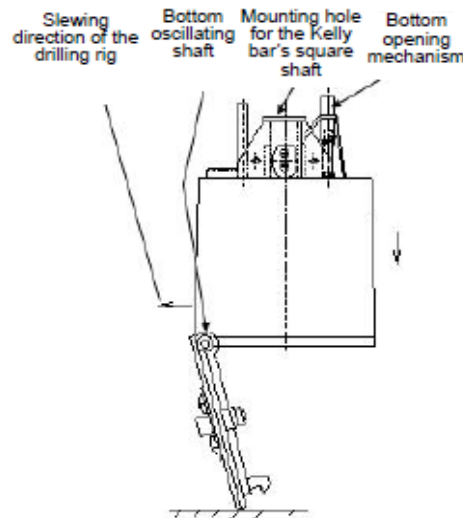

Fig. 5-10 Diagram of opening/closing the sand drilling tool (drilling tool)
- (1) When the muck in the bucket is evacuated, lower the main winch immediately and operate the slewing platform to turn it to a suitable position until the lowest part at the bucket bottom comes into contact with the ground (see Fig. 5-10).
- (2) Rotate the rotary drive and keep the drilling tool's bottom oscillating shaft at the front side of the slewing platform's rotation direction (refer to Fig. 5-10). Then lower the main winch and rotate the slewing platform slowly.
- (3) Once the bucket bottom becomes parallel to the ground, stop operating the slewing platform and continue to release the rope. Then, the bucket bottom can be closed due to the gravity of the kelly bar and the drilling tool. If the bucket gate still has difficulty in closing after fine adjustment of the main winch's elevating and lowering distances repeatedly, remove the redundant muck on the bucket bottom timely or check the abrasion of its locking mechanism.